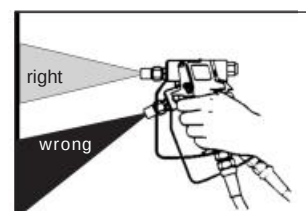

Fig. 27: Spray angle
- Hold the spray gun at a right angle (90°) to the area to be coated. If the spray gun is held at a different angle, the coating becomes irregular and blotchy (Fig. 27).